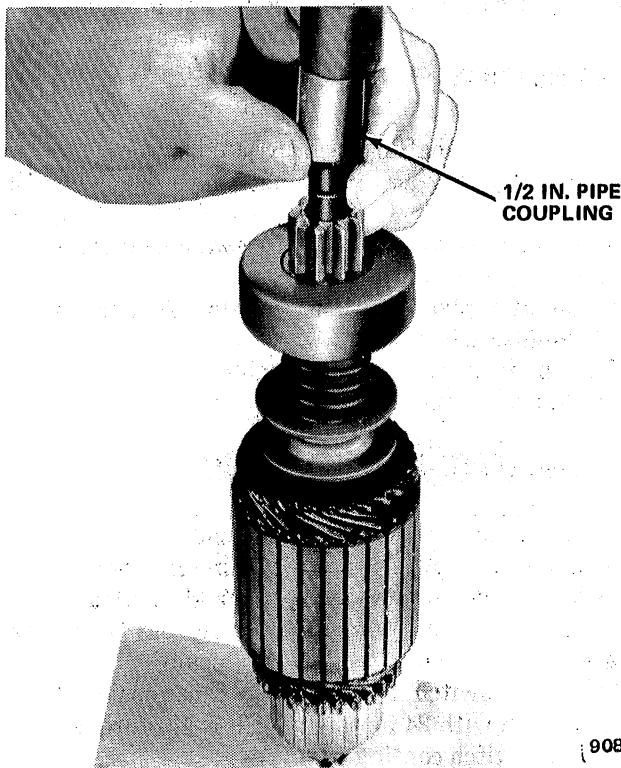

Fig. 1F-5 Removing Retainer From Snap Ring
- (1) Disconnect field winding connection from solenoid terminal.
- (2) Remove through-bolts.
- (3) Remove commutator end frame and field frame assembly.
- (4) Remove armature assembly from drive housing. Remove solenoid and shift lever assembly from drive housing before removing armature assembly.
- (5) Remove thrust collar from armature shaft.
- (6) Remove pinion gear from armature by sliding metal cylinder onto shaft and by striking metal cylinder against retainer with hammer. Drive retainer toward armature core and off snap ring (fig. 1F-5).
- (7) Remove snap ring from groove in armature shaft.